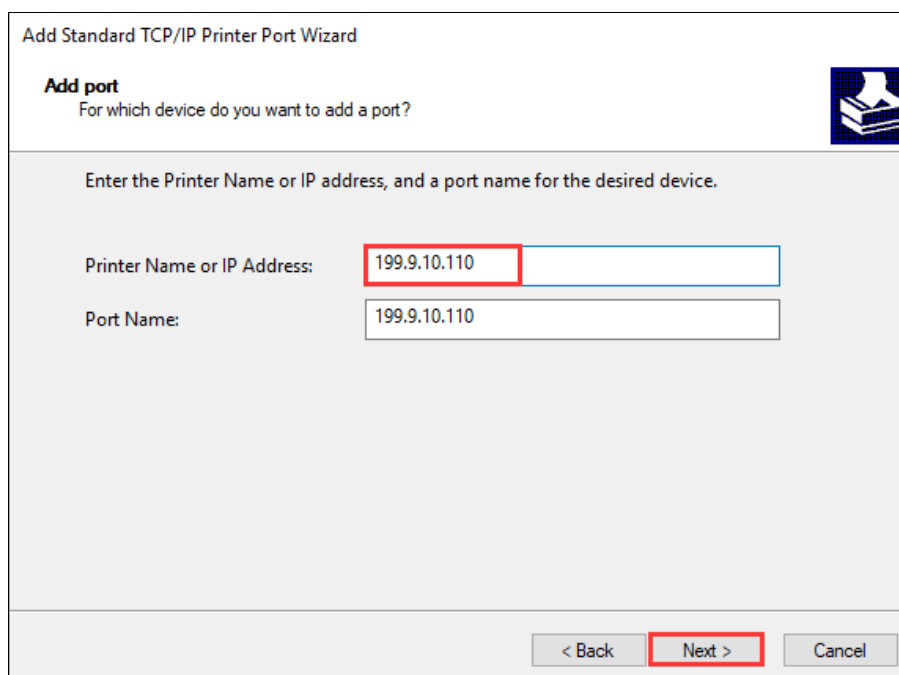

Figure 2-44 Add Port Screen
7. On the “Add Port” screen, enter the IP Address of the printer (Note: the IP address here must be consistent with the IP address of the printer that has been set, and the port name will be generated automatically), and then click “Next”, as shown in Figure 2-44.